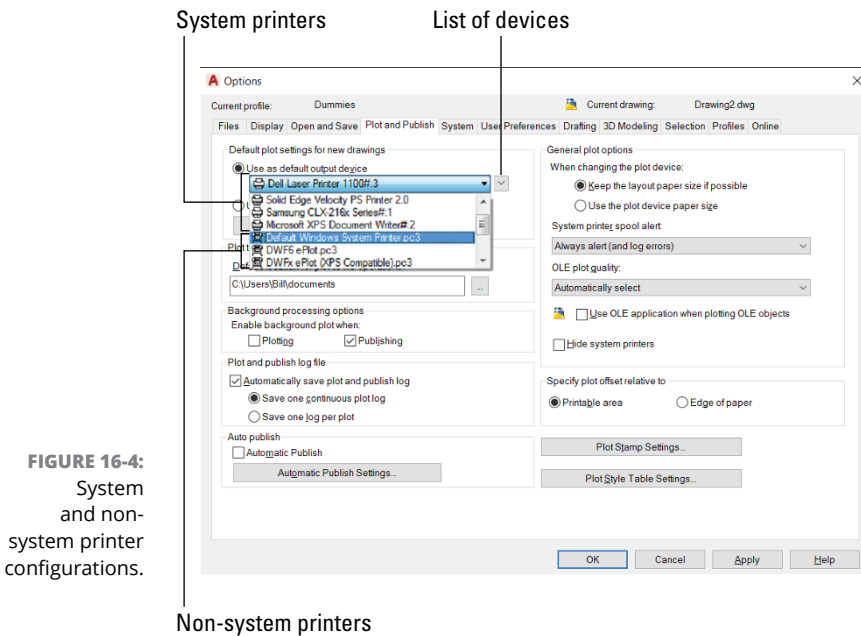

FIGURE 16-4: System and non-system printer configurations.
- 3. Click the drop-down arrow to view the list just below the Use as Default Output Device option, as shown in Figure 16-4.**